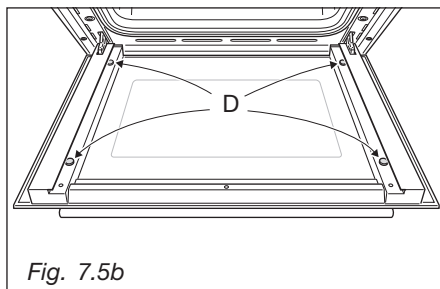

Fig. 7.5b
- Check the correct positioning of the no.4 (four) silicon rubbers **D** (fig. 7.5b).